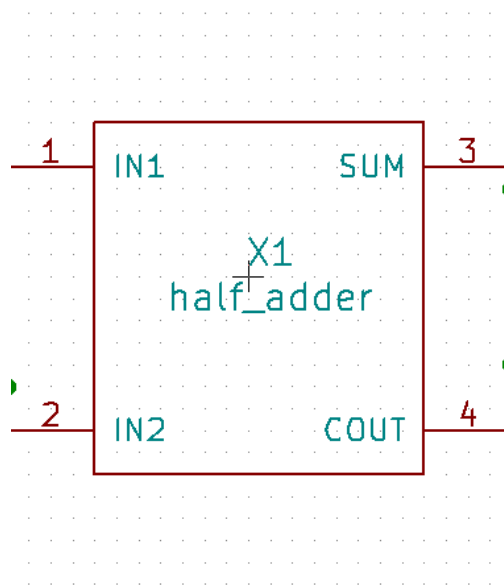

Figure 8.8: Half-Adder Subcircuit Block
- Update and save using `Update Current` component from the top toolbar as shown in Fig. 8.8.